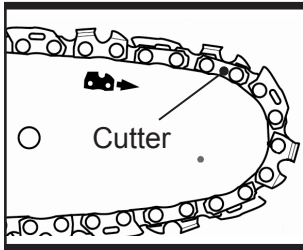

Fig. 2
- c). Spread the saw chain out with the cutting edges of the chain pointing in the direction of rotation. Slide the chain into the slot around the chain bar. Ensure chain is installed in correct direction of rotation. (See Fig.2)